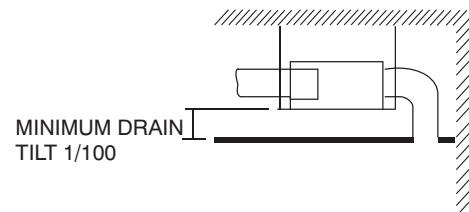

Fig. 13 —False Ceiling Installation
- There should be enough room within the false ceiling for installation and maintenance. See Fig. 13.